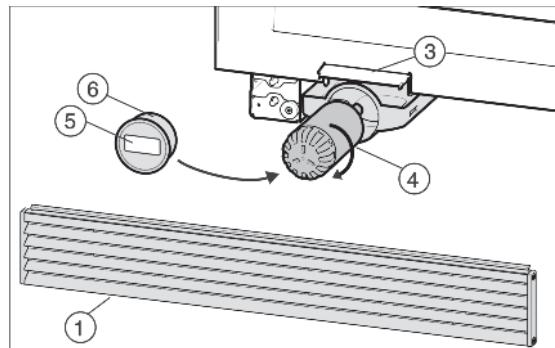

Fig. 9
- Insert the new filter Fig. 9 (4) and turn it about 100° clockwise as far as it will go.
- Place the cover Fig. 9 (6) on the filter.
- Write the date of the next filter replacement on the supplied adhesive label Fig. 9 (5) and affix it to the filter cover Fig. 9 (6).
- Push in the water filter carriage Fig. 9 (4).
- Close the filter change flap Fig. 9 (3).
- Fit the ventilation grid Fig. 9 (1) again and push down. It must close flush with the floor.